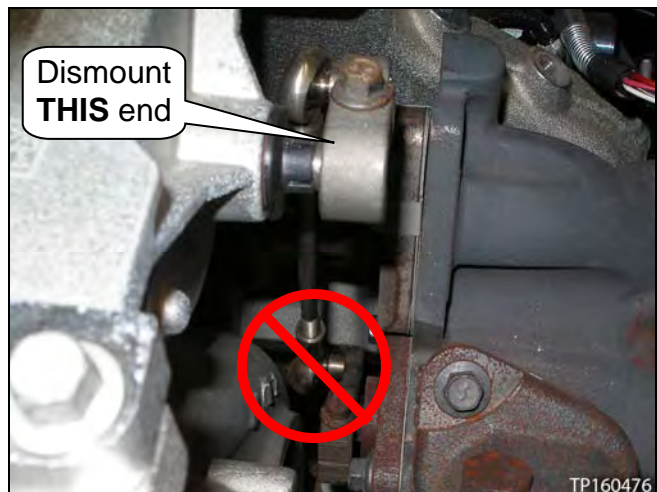

Figure 31
21. Loosen the bolt, and then dismount the **UPPER** rotary turbine control valve linkage (see Figure 31).